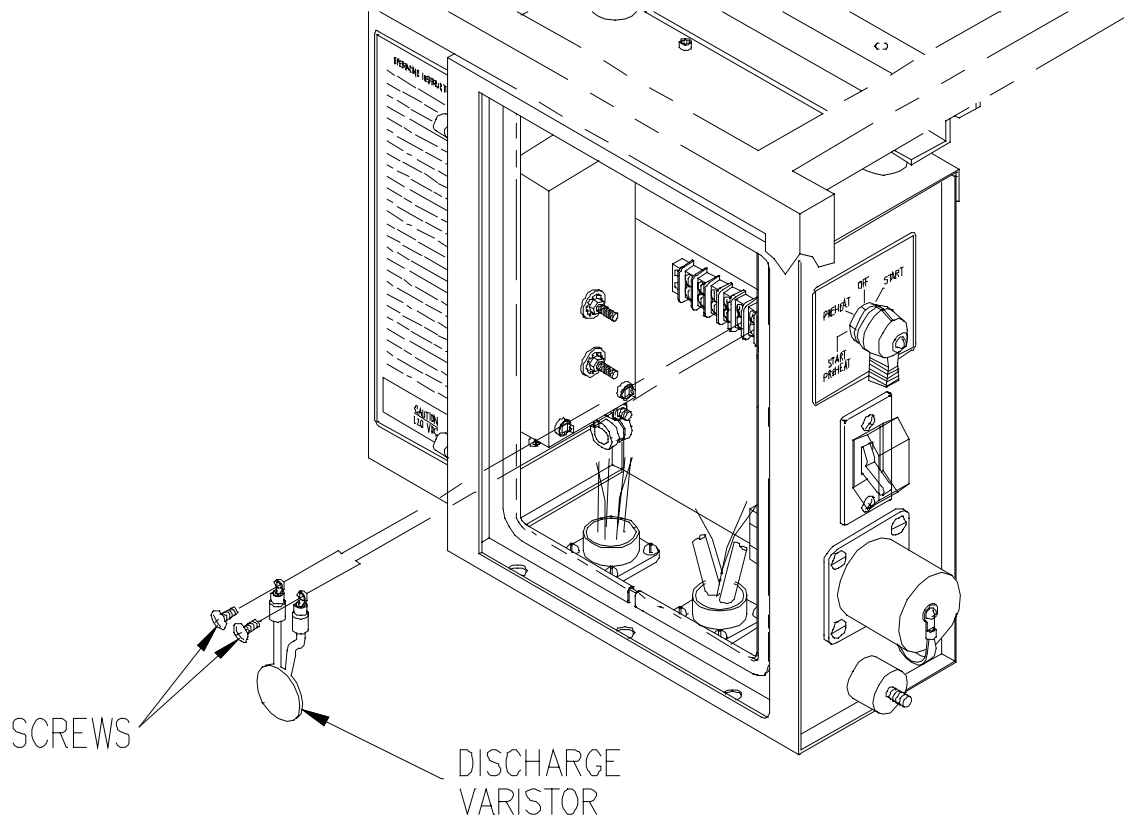

Figure 4-35. Discharge Varistor
- (1) Disconnect one lead from discharge varistor (Figure 4-35).
- (2) Set multimeter for ohms and check across leads for continuity in both directions.
- (3) Replace discharge varistor if continuity is indicated in either direction.
- (4) Install disconnected lead of discharge varistor.
- (1) Shut down generator set.
- (2) Release instrument panel by turning fastener, open instrument panel slowly.
- (3) Tag electrical leads for discharge varistor (Figure 4-35) at terminals 5 and 6 of TB1 (MEP-531A) or terminals 6 and 7 of TB1 (MEP-501A).
- (4) Remove screws and discharge varistor from control panel.
- (1) Install discharge varistor (Figure 4-35) in control panel with screws.
- (2) Remove tags from electrical leads.
- (3) Close and secure instrument panel.